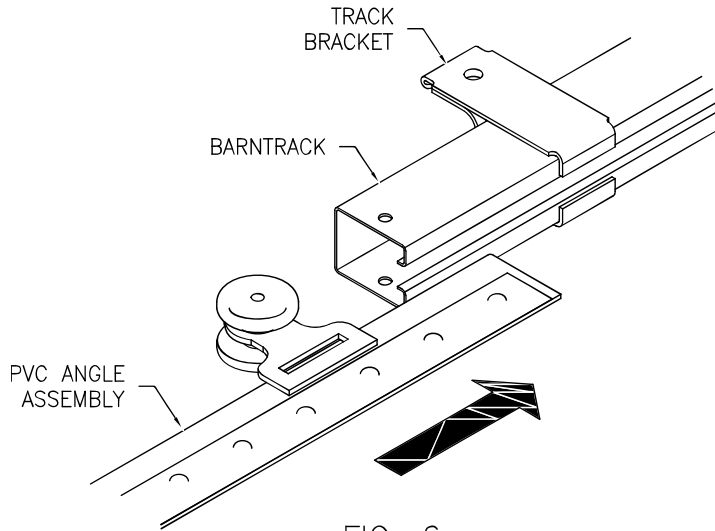

FIG. 6
- o Slide PVC angle into barn track with track bolts pointing towards the front (Fig. 6).